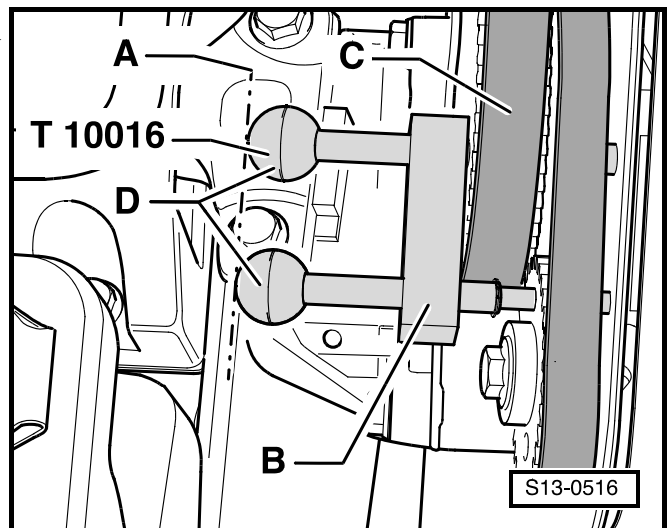

Fig. 2: Checking the axial play of the camshafts
- ☐ before installing check axial play of the camshafts ⇒ Fig. 2 in **15-2** page 3
- ☐ inspecting axial play ⇒ Fig. 2 in **15-2** page 3